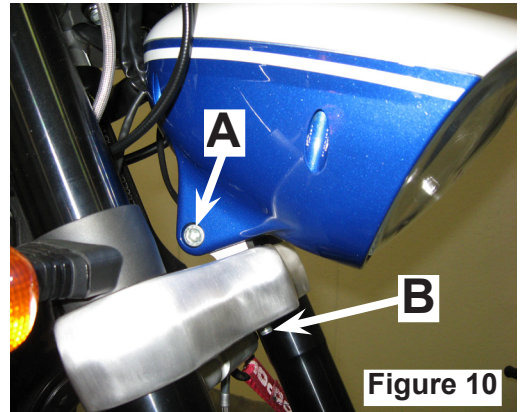

Figure 10
14. Attach housing to headlamp mount with the isolator the new M10x40 screw. Figure 10. Do not fully tighten this fastener until headlamp adjustment is completed in Steps 24-30.